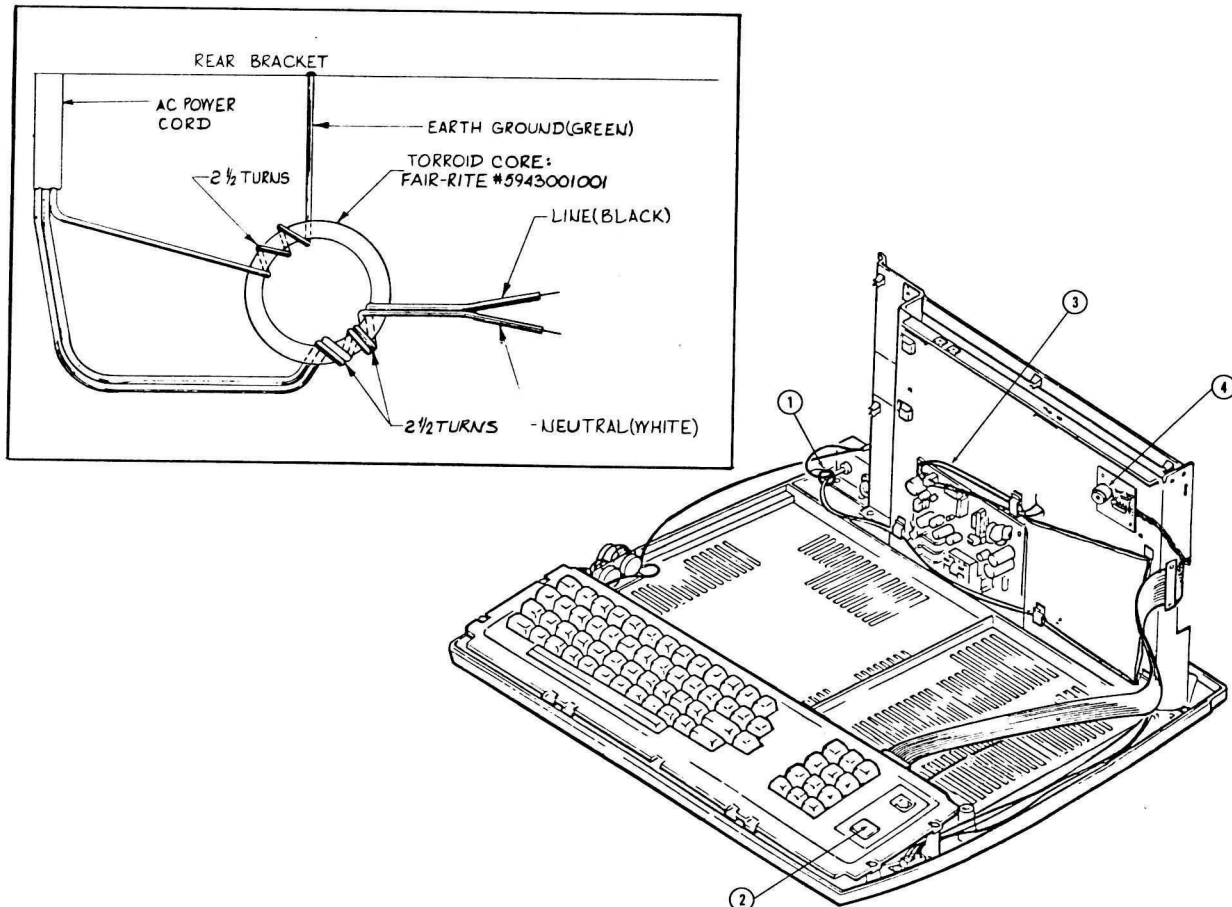

Figure 5. Base Assembly with Sound Board
1. Slip the RFI toroid coil (Figure 5 Item 1) on the power lines and the ground wire. Wrap the wires around the coil twice. Resolder the leads to the power switch and reconnect the ground.
5. Install the Model 4's 64K Ram Button (Figure 5 Item 2) in the Model 4 keyboard bezel.
7. Install the main power supply (Figure 5 Item 3) to the back of the Model 4's chassis.
11. Peel off the backing on the tape attached to the sound board (Figure 5 Item 4) and attach the sound board to the side of the chassis that the main power supply is mounted on, near the edge so that the connection can be made to the Logic board. Route the wiring through the top of the notched-out area on the side of the chassis to prevent trouble when replacing the top of the case.